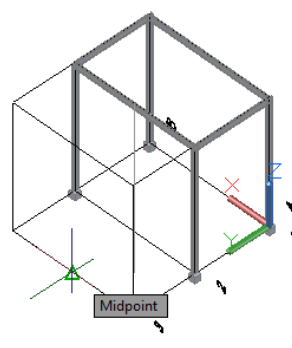
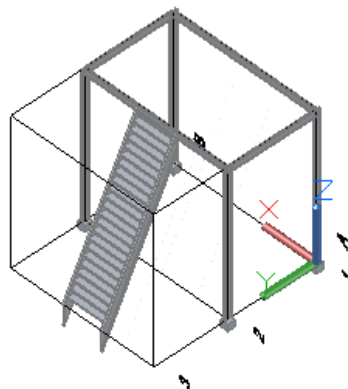

Figure 3-43 Selecting the second point
Figure 3-44 Model after creating stairs
5. Select the midpoint of the bottom grid line, as shown in Figure 3-43; a line is placed between the two specified points. Press ENTER to create the stairs on the specified line, as shown in Figure 3-44.